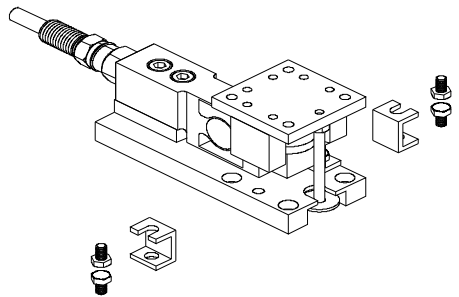

FIG. 4: REMOVING SHIPPING BRACKETS
- Step 2. Remove the two shipping brackets from the load point with a box-end wrench. (See Fig. 4)